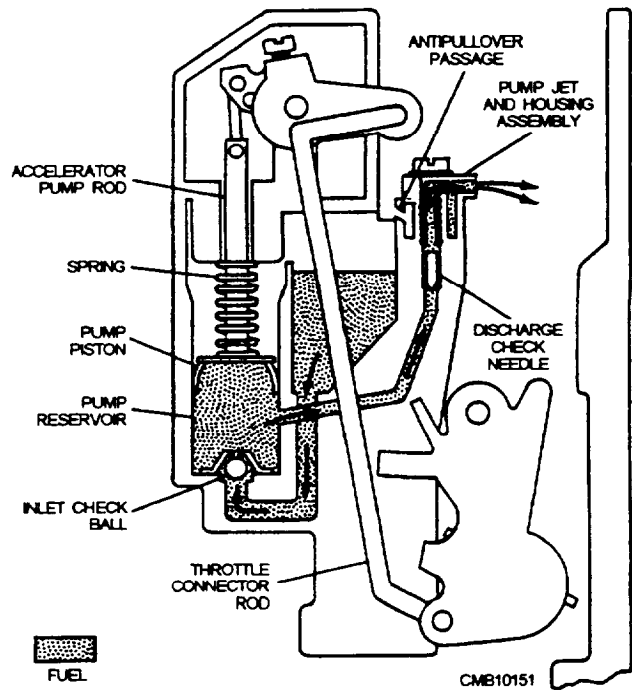

Figure 4-22.—Piston accelerator pump.
- The ACCELERATOR PUMP develops the pressure to force fuel out of the pump nozzle and into the air horn. There are two types of accelerator pumps—piston and diaphragm type (figs. 4-22 and 4-23).